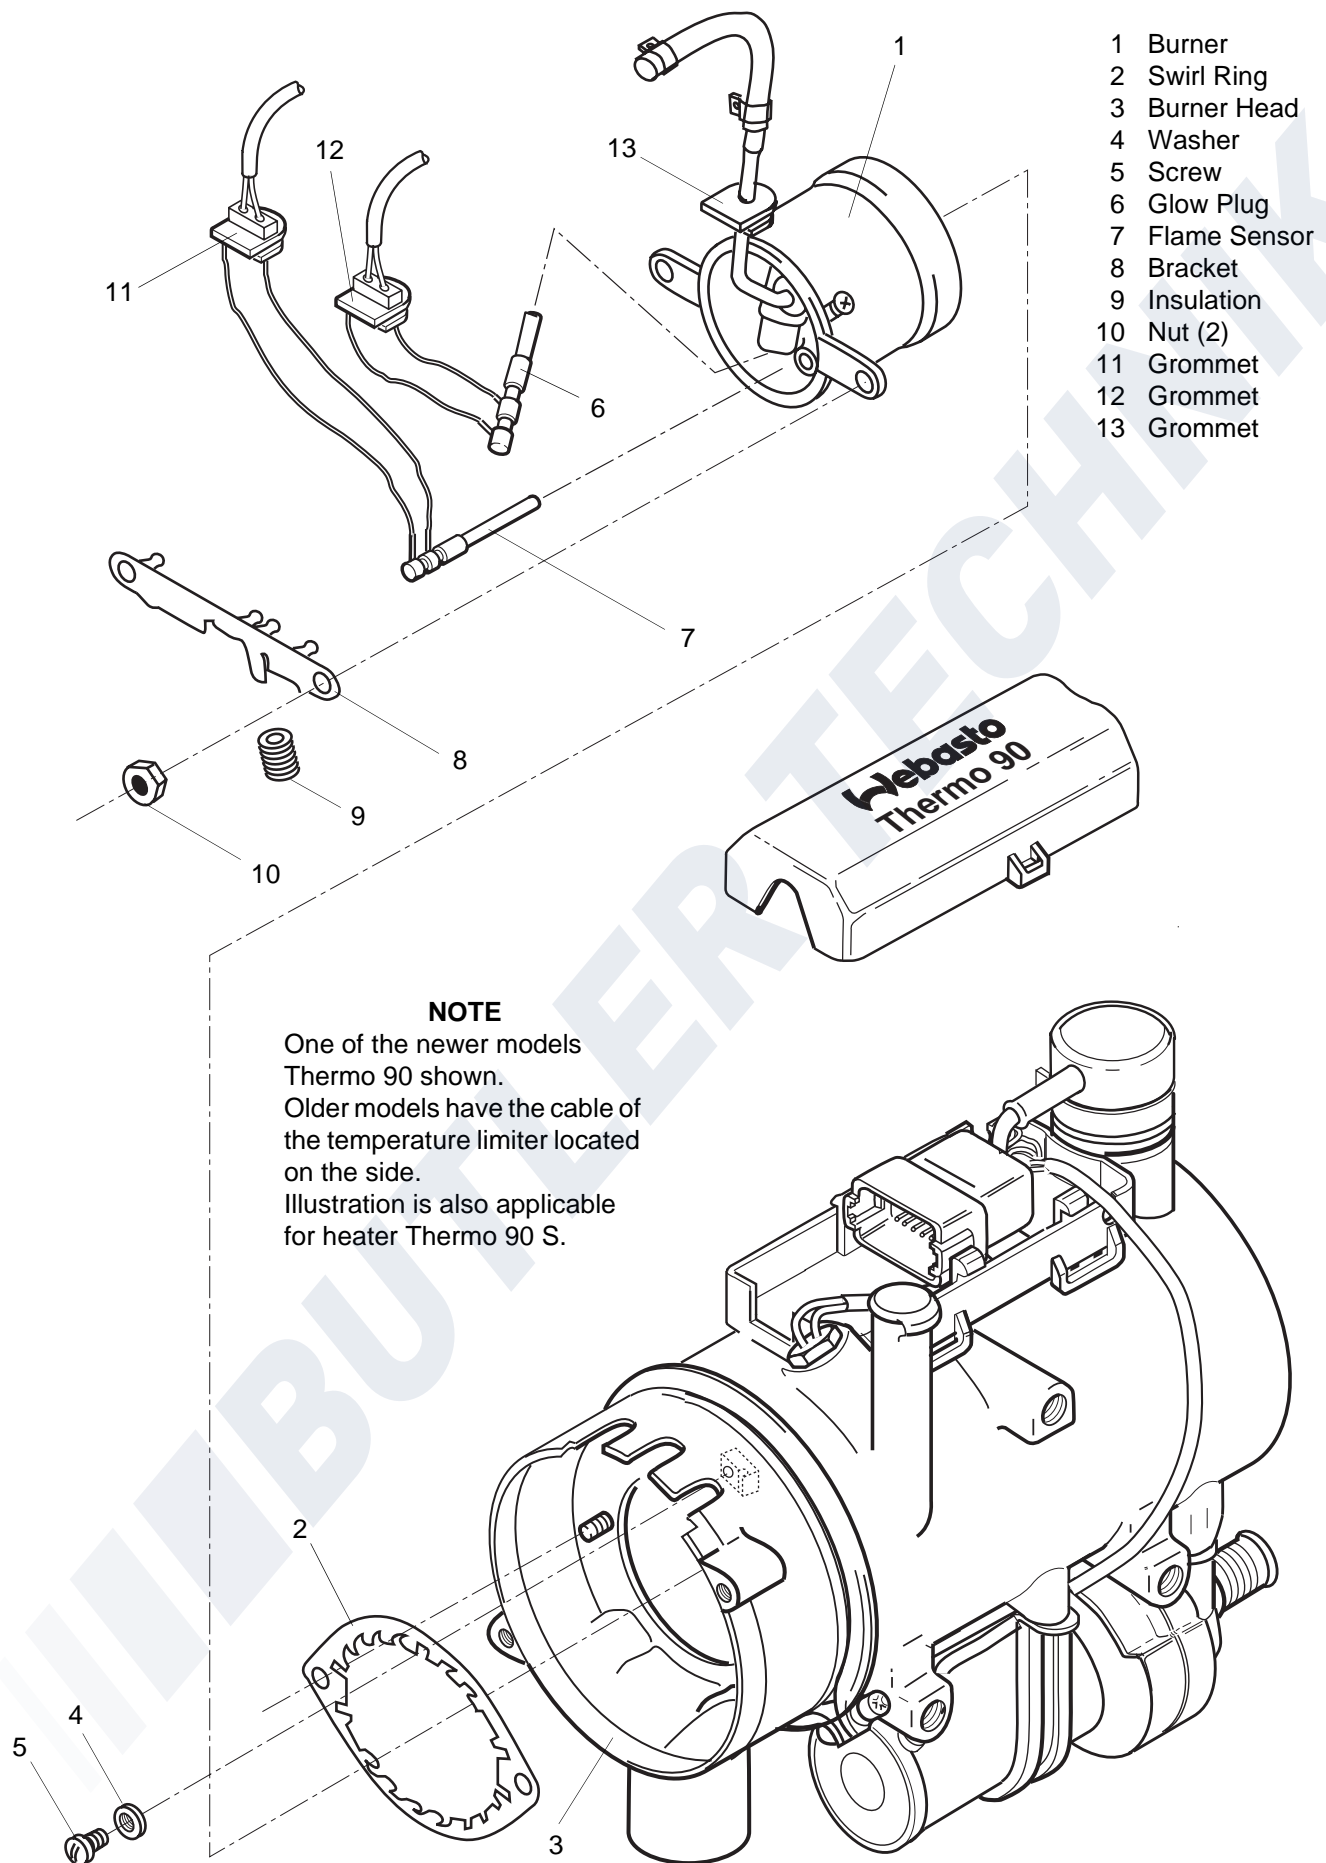

Fig. 905 Replacement of Burner, Flame Sensor, and Glow Plug
3. Remove screw (5, Fig. 905) and washer (4).
4. Remove nuts (10) and withdraw bracket.
5. Withdraw grommets (11 and 12) from slots in housing of combustion tube (3).
6. Withdraw grommet (13) and burner (1) from burner head and remove together with swirl ring (2).
7. Pull flame sensor (7) and glow plug (6) out of burner (1) and remove.
1. Locate swirl ring (2, Fig. 905) on burner (1).
2. Carefully and fully insert flame sensor (7) and glow plug (6) into burner against stop and slide grommets (11 and 12) down slots in housing of combustion tube (3).
3. Position burner (1) and grommet (13) in burner head (3).